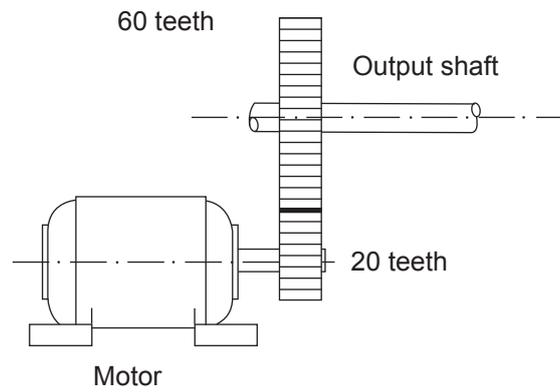
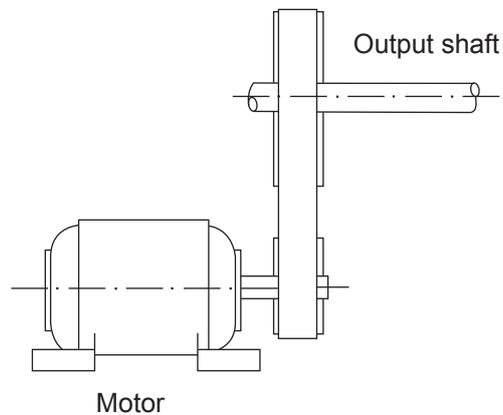

Fig. 6
Fig. 7
(b) Look at **Fig. 6**. It shows a mechanism for transmitting power to an output shaft.
(i) Write down the name of the mechanism shown in **Fig. 6**.
(v) A large change of speed is needed at the output shaft in **Fig. 6**. Write down a suitable method to achieve this output.
- (c) Look at **Fig. 7**. It shows a different method for transmitting power to an output shaft.
- (i) Write down the name of the mechanism shown in **Fig. 7**.
- (ii) Write down **one** advantage and **one** disadvantage of this method compared to that in **Fig. 6**.
- (iii) **Fig. 6** and **Fig. 7** show two possible methods for transmitting power to the output shaft. Write down **one** other method that could be used.